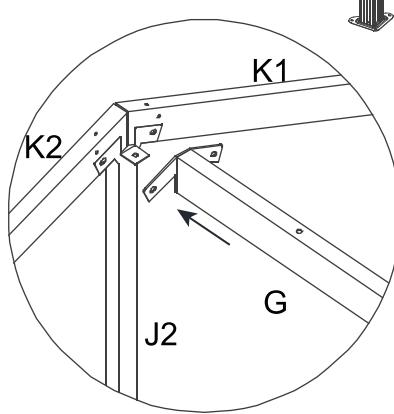

Figure 8.3
8.3 Connect the Middle Support bar (G) with the Bilateral Cant Beam (K1/K2) , fix them with Bolts (AA) and Washers (HH) . See Figure 8.3.